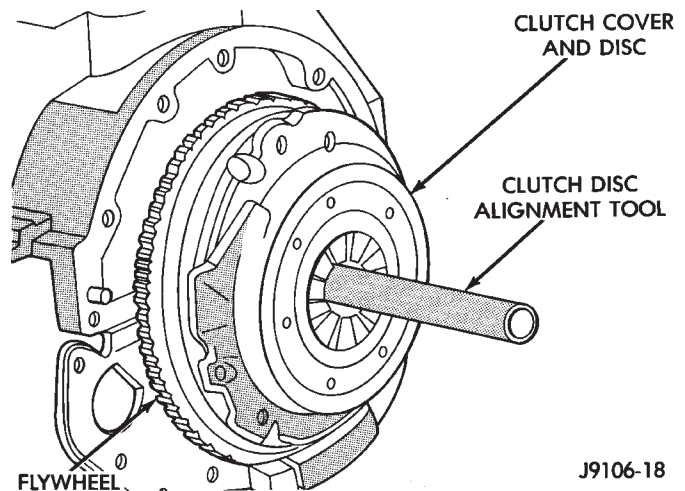

Fig. 3 Clutch Disc Alignment
- (6) Insert alignment tool or spare input shaft in pilot bushing and position disc on flywheel (Fig. 3).
- (7) Position clutch cover over disc and on flywheel. Verify that disc and cover are aligned before proceeding.
- (8) Install clutch cover bolts finger tight.
- (9) Tighten cover bolts evenly (and in rotation) a few threads at a time. **Cover bolts must be tightened evenly and to specified torque to avoid distorting cover.** Cover bolt torques are: